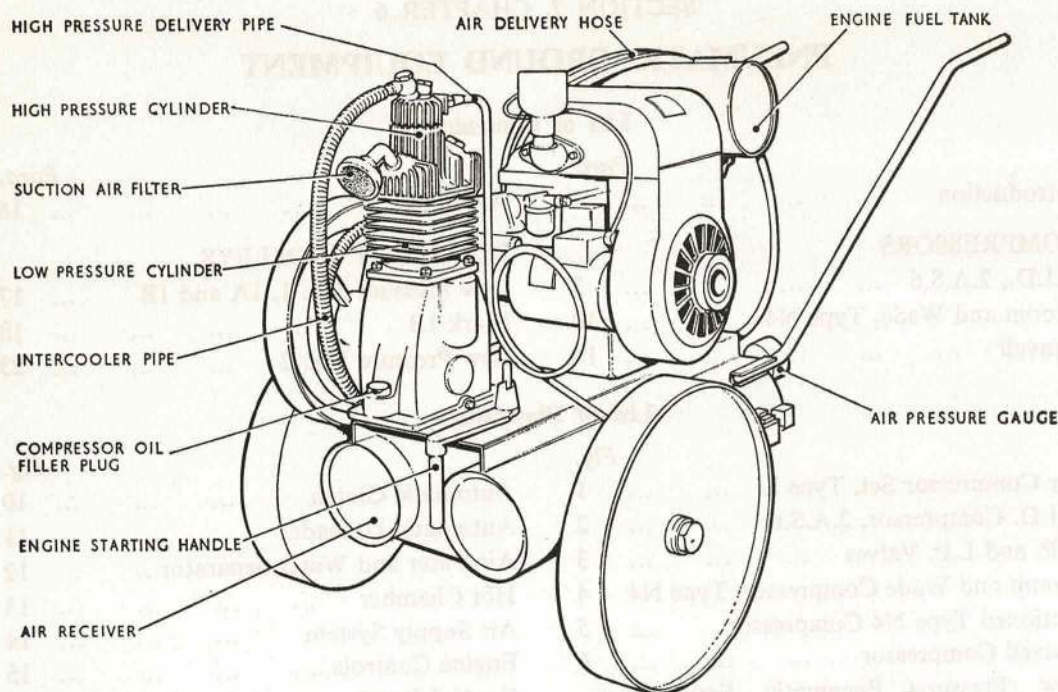

Fig. 1. AIR COMPRESSOR SET, TYPE L
3. This compressor forms part of the air compressor set, Type L, as shown in Fig. 1.